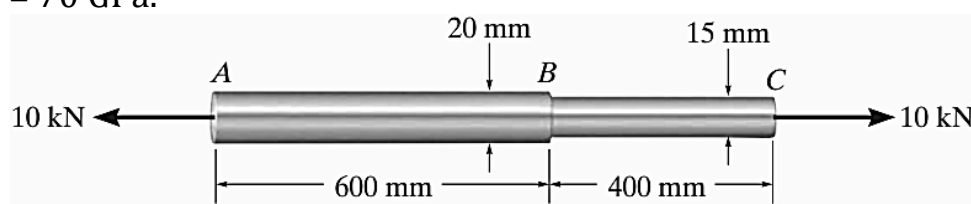
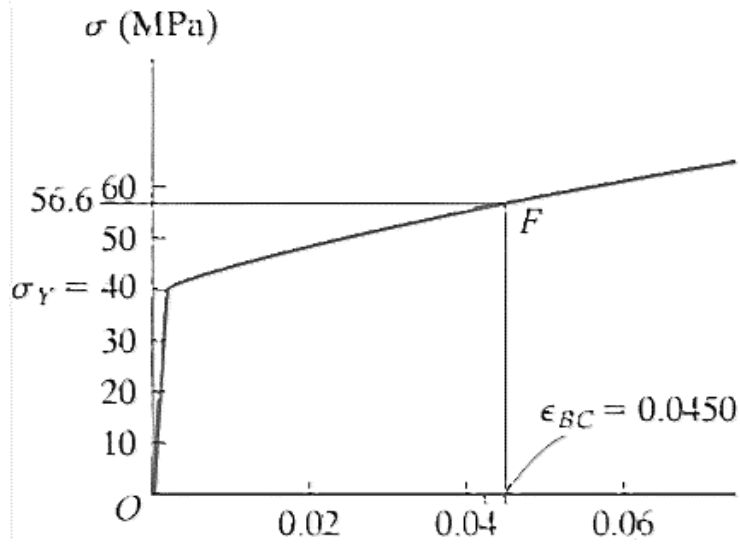

Fig. 1
Fig. 2
- (b) An aluminium rod shown in Fig. 1 has a circular cross section and is subjected to an axial load of 10 kN. If a portion of the stress-strain diagram is shown in Fig. 2, determine the approximate elongation of the rod when the load is applied. Take $E_{al} = 70$ GPa.